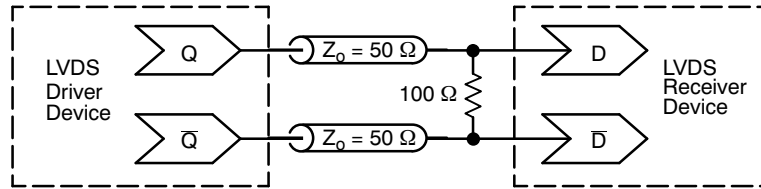

Figure 13. Typical LVDS Termination for Output Driver and Device Evaluation
- LVDS outputs require 100 Ω receiver termination resistor between differential pair. See Figure 13.
12. Measured by forcing $V_{INPPmin}$ with 50% duty cycle clock source and $V_{CC} = 1400 \text{ mV}$ offset. All loading with an external $R_L = 100 \Omega$. Input edge rates 100 ps (20%–80%). See Figure 13.